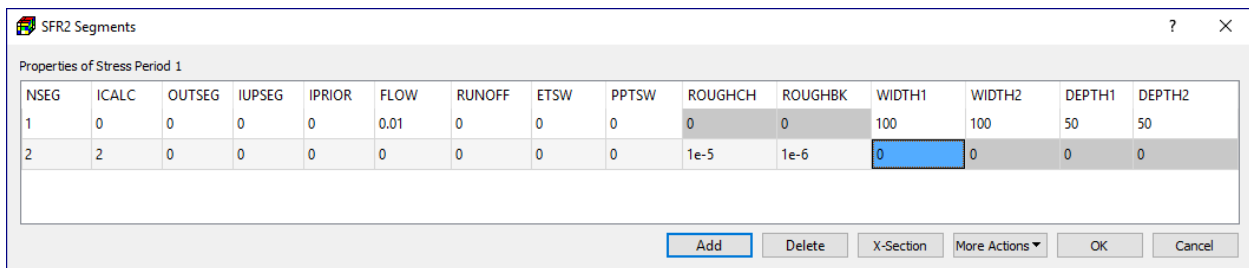

Figure 73. The SFR2 Segments dialog box
- **Precipitation boundary.** Use this option if precipitation (i.e., PPTSW in Figure 73) directly to channels is simulated in the flow model and a non-zero concentration (default is zero) is desired.
- **Runoff boundary.** Use this option if you want to assign a non-zero concentration (default is zero) associated with the runoff values (i.e., RUNOFF in Figure 73).
- o **Segments:** Click the Edit button to open the SFR2 Segments dialog box (Figure 73). This dialog box contains a table and several buttons as described flow. Each row of the table in this dialog box represents a segment of the current stress period.